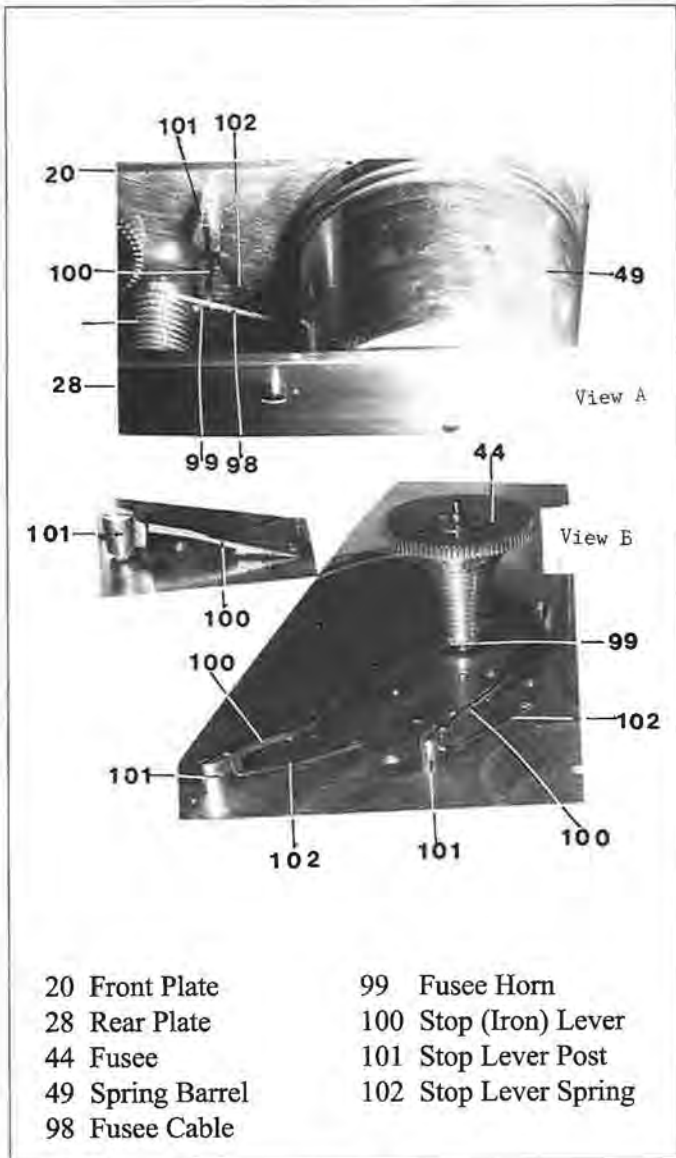

Figure 33.7. Fusee Components
21.6.5.1. Check strike stop iron (lever) for operation (Figure 33.7).